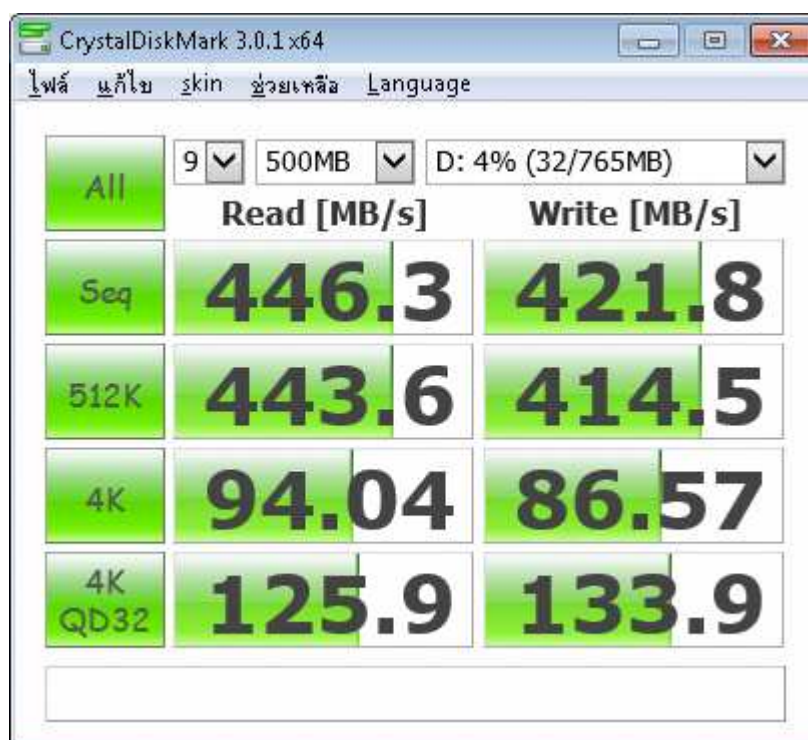

Figure 10 Disk performance test by benchmark
- Now disk can be read/write by file system operation. Figure 10 shows disk performance by using CrystalDiskMark benchmark.